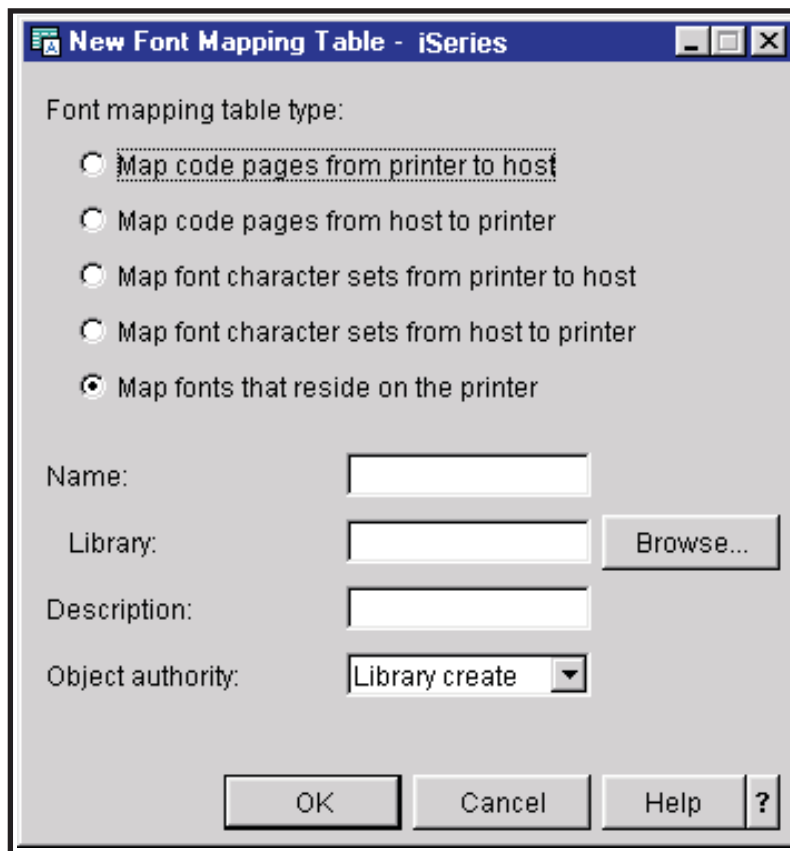

Figure 200. New Font Mapping Table Window
5. Right-click **User Tables** and select **New....** The window shown in Figure 200 opens.